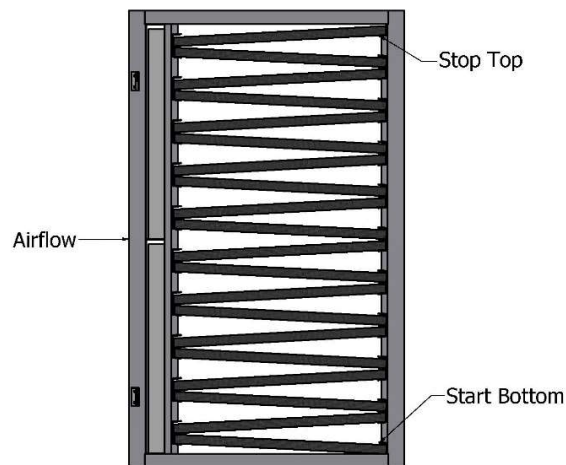

Fig 1a.
- 5.4. Install filters working from the bottom to the top. (Fig 1a)